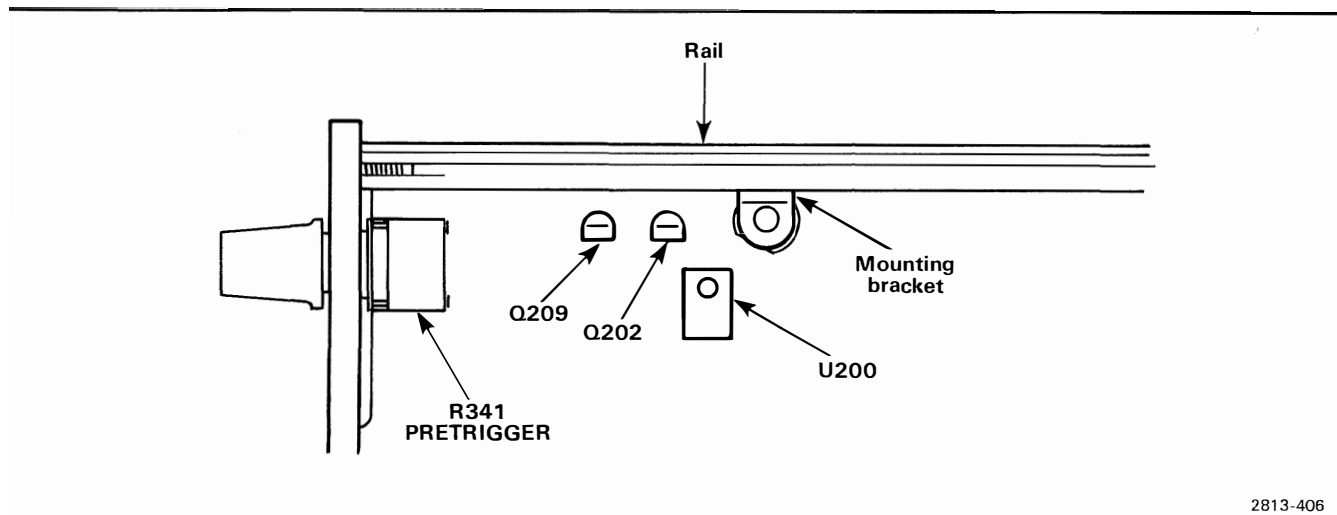

Figure 4-7. Location of Q202 and Q209.
19. Remove Q202 and Q209, the two transistors between the rear of the PRETRIGGER control and the board-mounting bracket. This provides clearance to remove the Sweep Board. Figure 4-7 shows Q202 and Q209.
1. Remove Q202 and Q209, the two transistors nearest the PRETRIGGER control. Figure 4-7 shows Q202 and Q209.